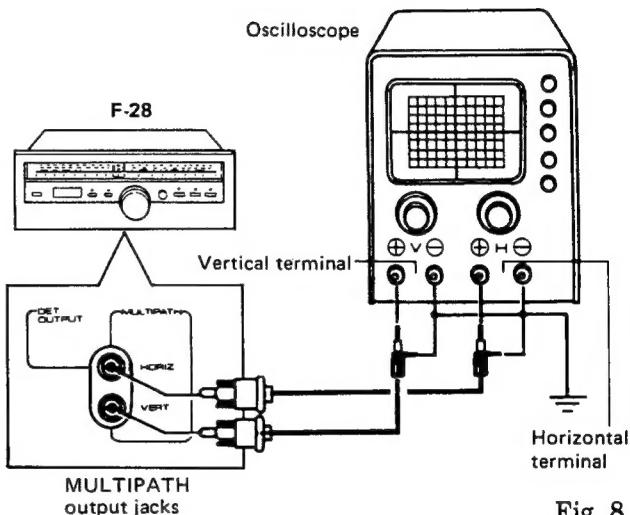

Fig. 8
1. As shown in Fig. 8, connect the HORIZ MULTIPATH output jack at the rear of the tuner to the HORIZ axis input jack on the oscilloscope and the VERT MULTIPATH output jack to the VERT axis input jack with good quality shielded wires.